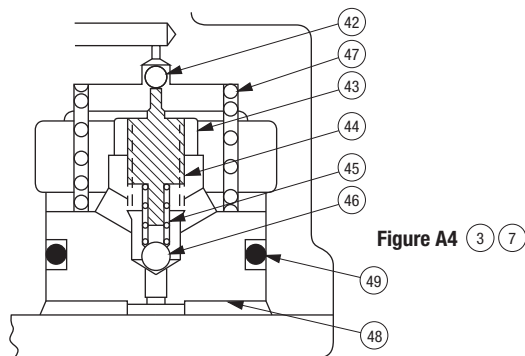

Figure A4 (3) (7)
Low-pressure relief valve is set too low.	See Low-Pressure Relief Setting, Figure A4 in the Repairs section of this manual.
The pilot piston does not advance freely	See Hydraulic Schematic (7). See Low-Pressure Relief Setting, Figure A4 in the Repairs section of this manual. Clean and inspect items 42-49. Replace parts as necessary.
Refer to Figure A4. Lightly bottom the stem (44) on the ball (46). Then, back out the stem 3-1/2 turns. Tighten nut (43). The resulting pressure setting should be approximately 19.3 bar (280 psi).